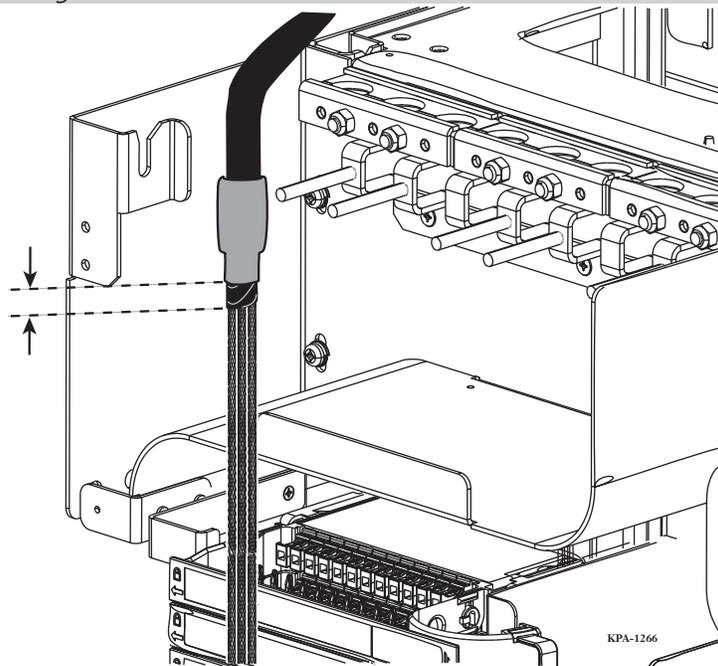

Figure 20
Step 3: Tape joint and cover with heatshrink tubing (Figure 20).